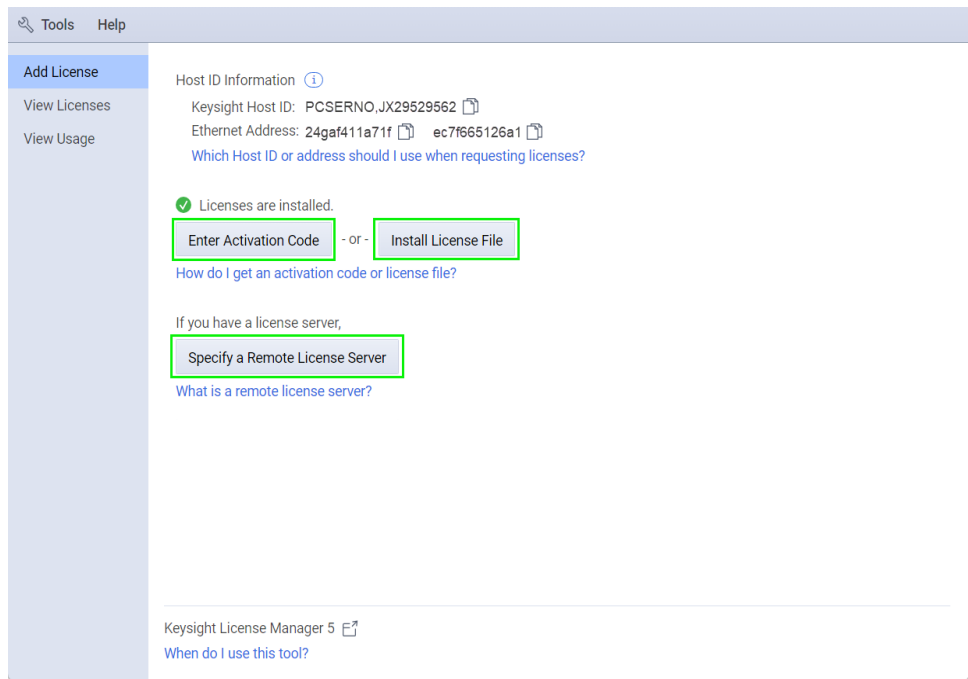

Figure 6 License installation options
- 3 In the **Add License** tab (Figure 6), use one of the options to install the license file.